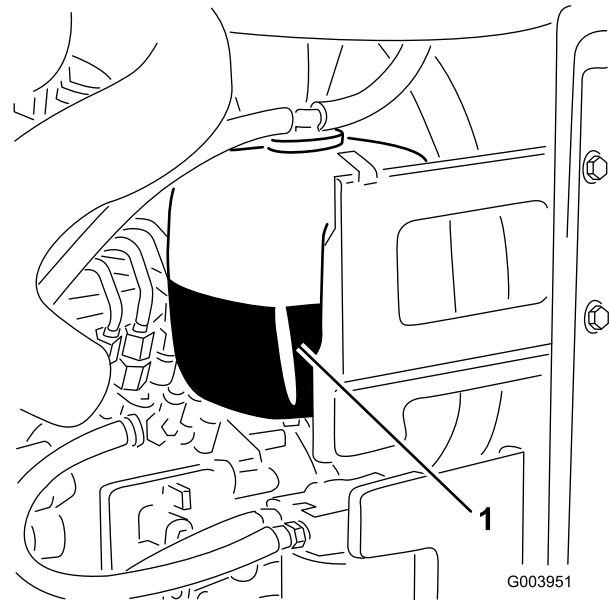

Figure 21
1. Check the level of coolant in the expansion tank (Figure 21).